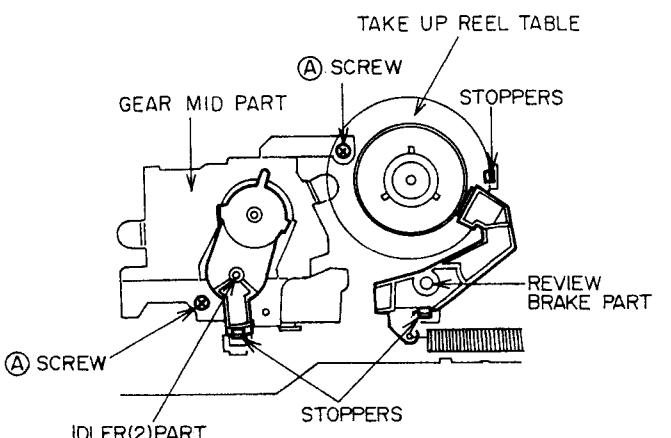

Fig. 3-18
- 2) Release the stopper of IDLER PART (2) as shown in Fig. 3-18, then remove it.
- 1) Remove the IDLER (2) PART and REVIEW BRAKE PART with referring to the step 3-6
- 2) Release the stopper of the TAKE UP REEL TABLE as shown in Fig.3-18, then remove it.
- 3) Remove the two \textcircled{A} screws then replace the GEAR MID PART as shown in Fig.3-18